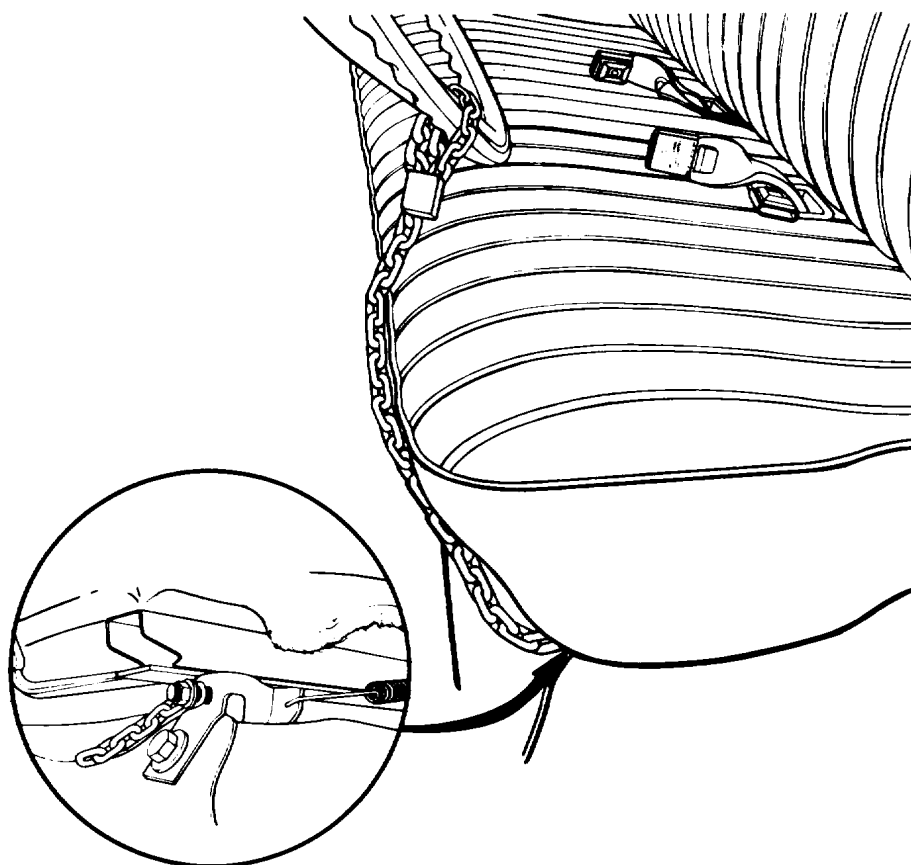

Figure 4. M1008 Cargo Chain Position.
a. Drill a 27/64 inch hole in front end of left hand seat riser bracket. Locate hole 9/16 inch from top of bracket and 5/8 inch from outboard edge of bracket. Insert screw threaded area forward into hole, attach end of chain with washer and nut, then tighten. After tightening, the nut should be staked to prevent removal (Fig. 4). Position chain around steering wheel spokes and secure with padlock.